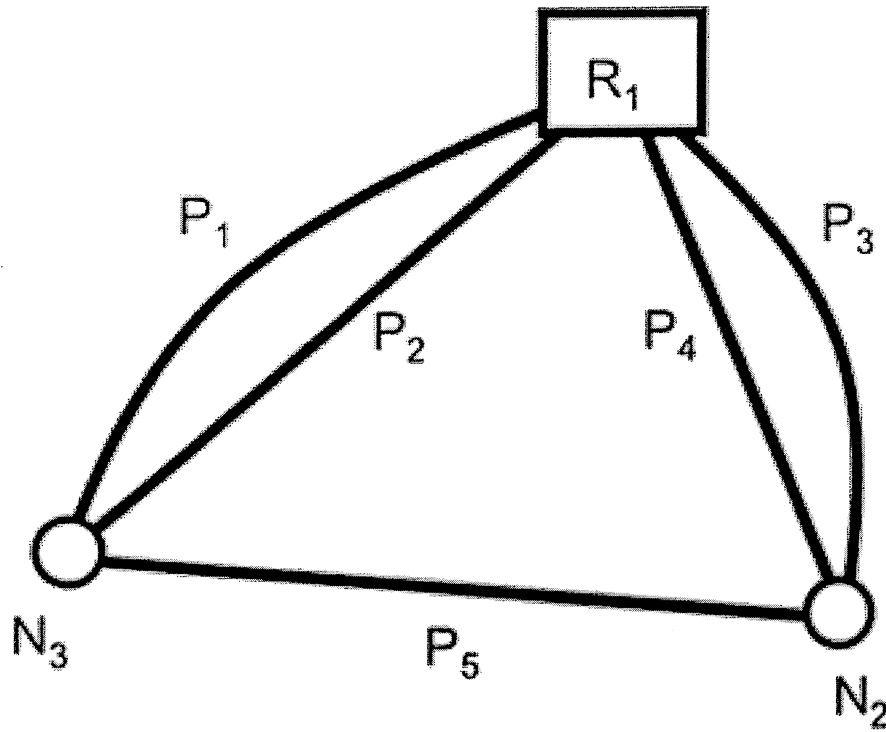

Figure 1. Network layout.
3. An elevated tank with a fixed water level of 67m supplies water to the distribution network shown in Figure 1. The network has 5 pipes with the following parameters: Length = 450 m, Hazen-Williams 'C' factor = 110, and Diameter = 305 mm. The 2 demand nodes in the network are at an elevation of 9 m. The demand at the 2 demand nodes are: $Q_2 = 200$ L/s and $Q_3 = 50$ L/s. A valve along pipe 3 (P3) is initially closed.